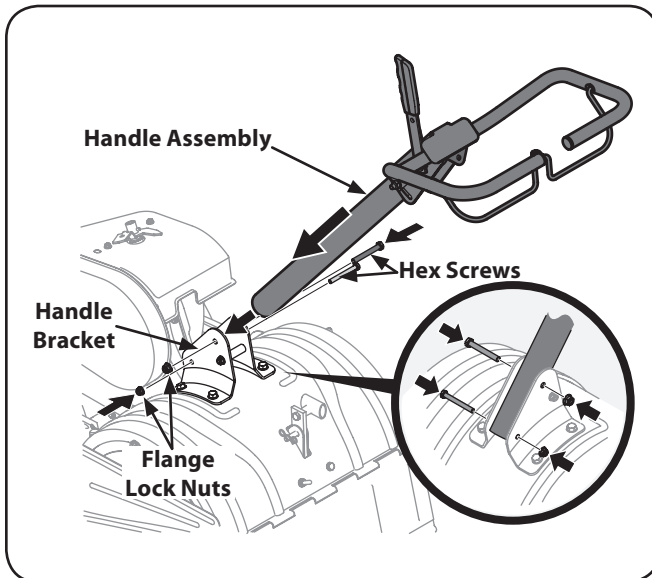

Figure 3-3
2. Place the handle assembly in position between the handle bracket. See Fig. 3-3.